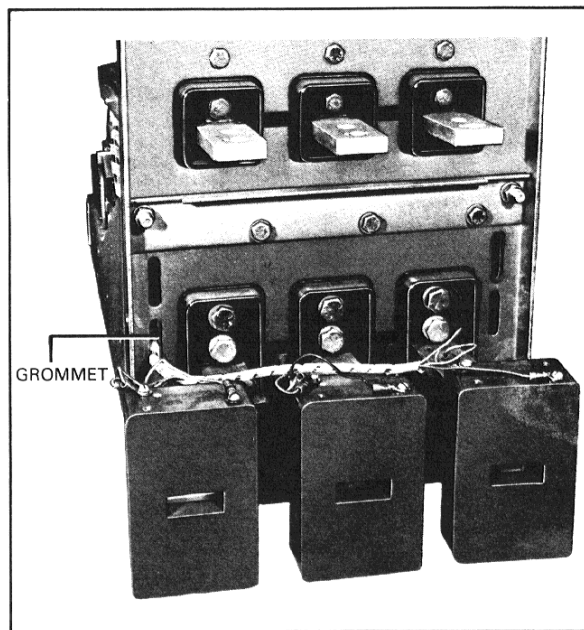

Fig. 11 Attaching Wiring Harness to Sensors DB-25
5. Install grommet in lower slot on right side of breaker rear frame. **Note: Remove approximately 18" of the harness cover to get the sensor end of harness through grommet.** Thread the sensor end of the harness through this grommet, Fig. 11.